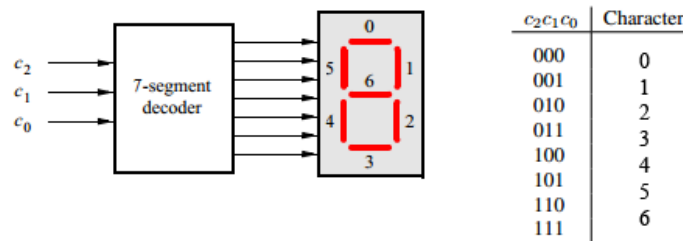

Figure 11: 7 segment display and decoder
The 7-segment display is comprised of 7 LEDs that are arranged in such a way that allows for the creation of the numbers 0-9 and a select few characters with some clever use. Figure 11 shows the block diagram and output table. Your task is to create a 3 input, 7 output decoder that will display a number from 0-6. To accomplish this task, you should program the switches SW(0) - SW(6) to make the first 7 displays show the numbers 0-6 when its switch is turned on.